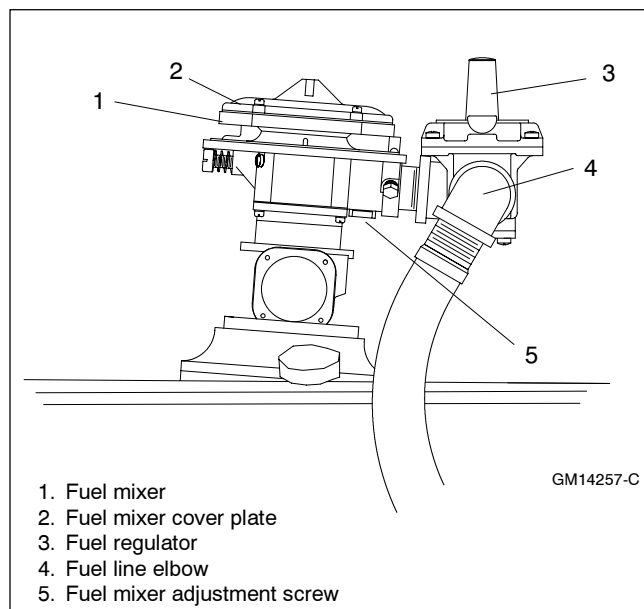
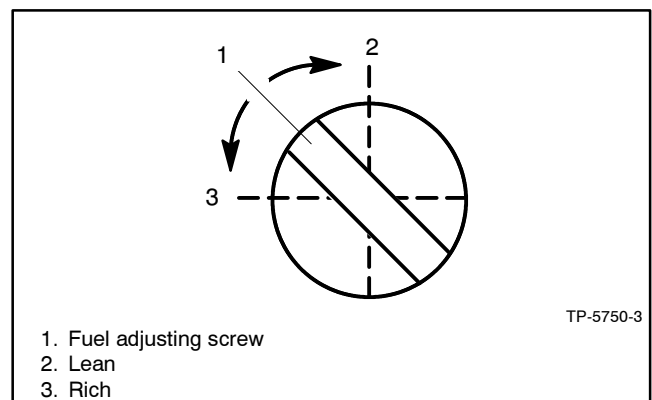

Figure 4 Fuel Mixer
Figure 9 Fuel Mixture Adjustment, Typical
- 2.1 Remove the five fuel mixer cover plate screws. See Figure 4. Be aware that there is a spring under the fuel mixer diaphragm, that may cause the cover plate and mixer diaphragm to pop up when the screws are loosened and removed.
- 6.2 See Figure 4 for location of the fuel mixture adjustment screw and adjust the fuel mixture screw (Figure 9) until the engine runs smoothly.